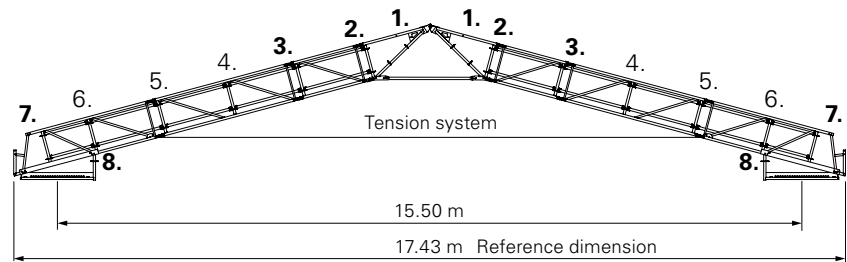

Fig. B1.02a
- with tension system (Fig. B1.02a),
Connect tension system to the eave element. (Fig. B1.02a)